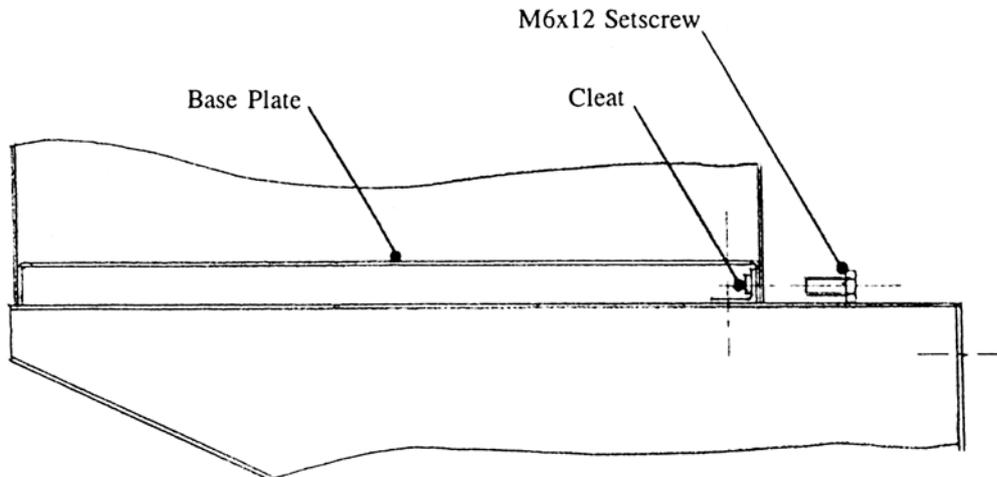

Fig. 3
- 3.1.5 Place the appliance on the Wall Brackets such that the cleats are located against the inside face of the appliance Base Plate flange (see Fig 3). Insert M6 x 12 set screws (fastener pack) through the two holes in the appliance casing Front Panel, and screw into cleat.